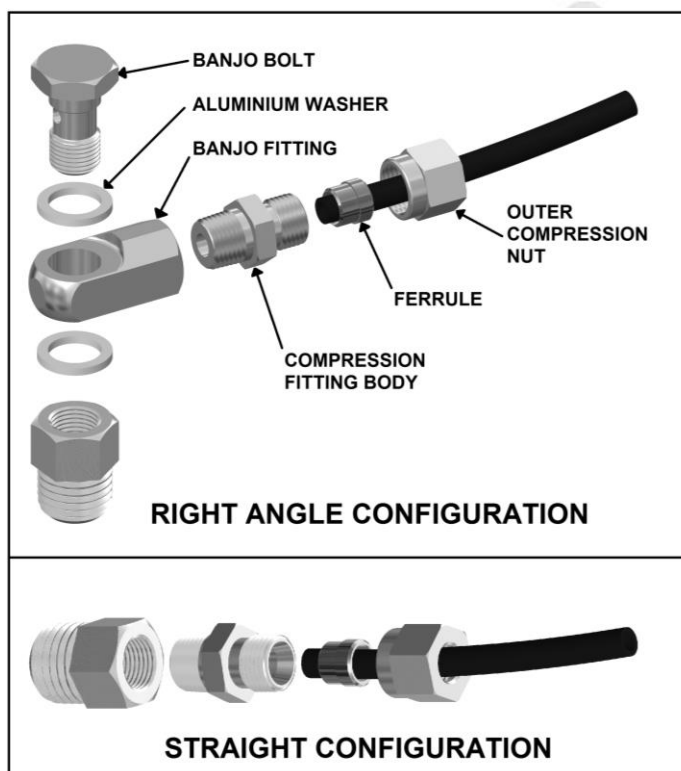

Figure 15.
- ☐ Assemble an aluminium washer onto the banjo bolt and insert through the banjo fitting. Assemble second aluminium washer and tighten into bulkhead fitting using a 14mm [9/16"] spanner. (Fig.15.)
- ☐ Insert the outer compression nut and ferrule over the air line. Ferrule should be orientated as per Fig.15.
NOTE : When right angle routing of the tube is not required, screw the compression fitting body straight into the bulkhead fitting body (Fig.15.).